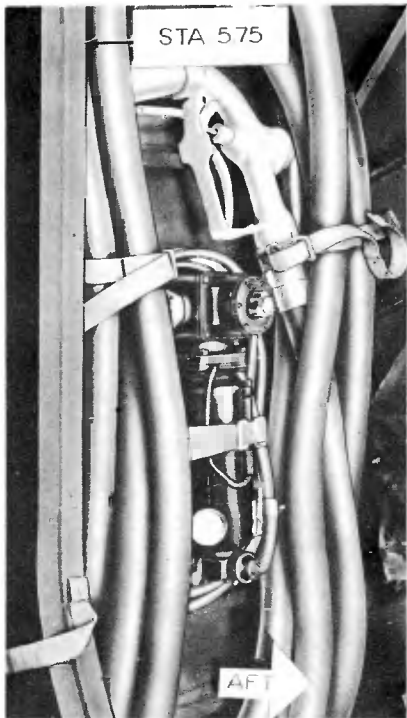

Figure 38—Bilge and Refueling Pump
(3) ASSIGNMENT OF LIFE JACKETS AND PARACHUTES.—Each member of the crew should be assigned a certain life jacket and parachute, and shown their locations before flight, to prevent confusion in case of emergency.
h. BILGE AND REFUELING PUMP. (See figure 38.)—A combination bilge and refueling pump is stowed on the hull bottom between beltframe 5.75 and bulkhead 6, on the starboard side of the ship. The unit consists of two pumps (one for fuel and one for bilge water) and an electric motor.
(1) To operate as a refueling unit proceed as follows: